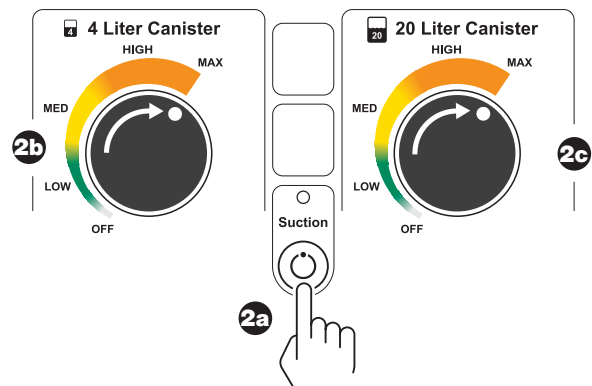

Figure 13 To Test Fluid Suction
- a. Push the SUCTION button to start the vacuum pump (Figure 13). Make sure the vacuum pump starts. If not, see the *Troubleshooting* section and the *Error Code Messages* section.